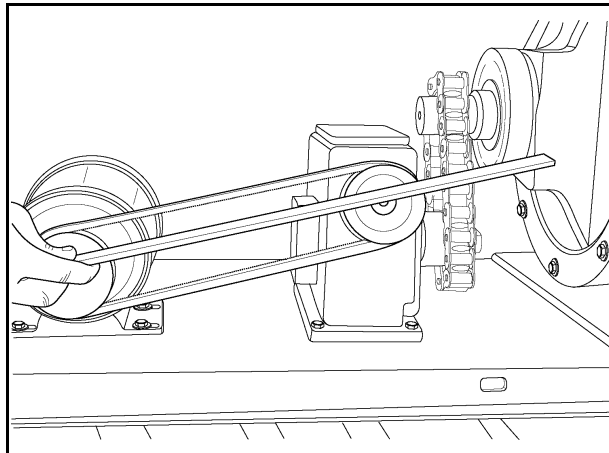

Figure 7I
9. Next, place the A-24 belt onto the pulleys. See Figure 7I Tighten the belt to its proper tension of 3/8" deflection at ten pounds of pressure by pulling motor away from gearbox. Tighten the four 5/16" flange bolts on the motor base. Replace the belt shield.